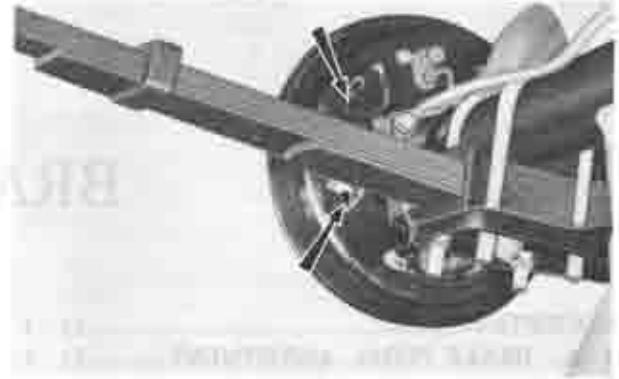

Fig. 11-2 Adjusting holes
3. Remove two shoe adjusting hole plugs from the back of the backing plate, as shown in Fig. 11-2.